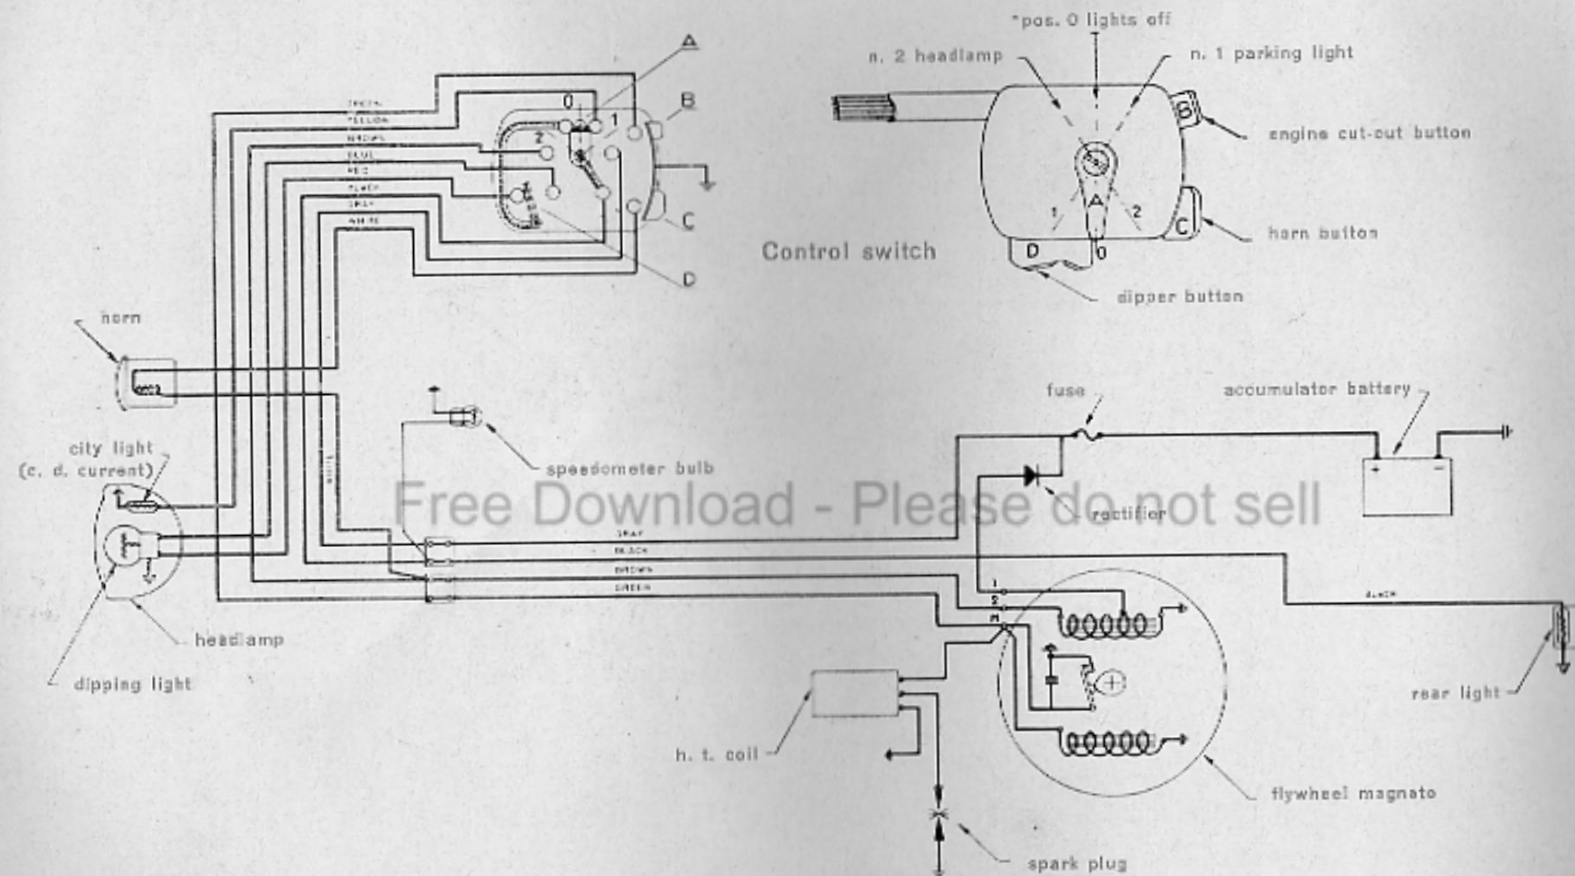

Fig. 6
b) **Electrical system with parking light** (diagram fig. 6):
The current for the speedometer 6V-1,5W light is taken from the junction box in the headlamp (see wiring diagram, fig. 6).